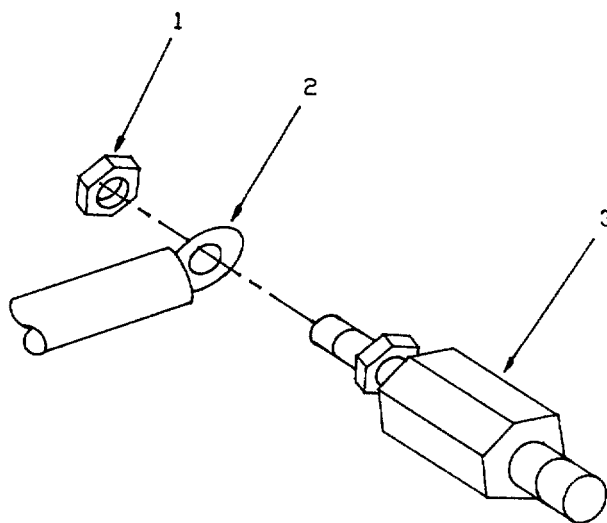

Figure 4-19. Temperature Transmitter.
- (1) Remove plain hexagon nut (1, Figure 4-19) and disconnect wire (2) from temperature transmitter (3).
- (2) Unscrew temperature transmitter (3).
- (1) Install temperature transmitter (3, Figure 4-19).
- (2) Connect wire (2) and plain hexagon nut (1) on temperature transmitter (3). Tighten plain hexagon nut (1).